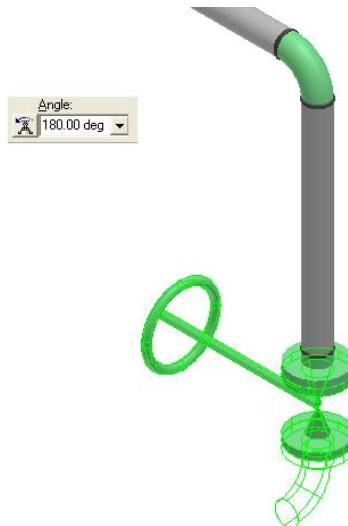

Figure 67: Elbow Rotated by 180 Deg
9. An outline of the elbow and mating flange will appear in the graphic view. Key in **180 deg** in the **Angle** drop-down list on the **Insert Component** ribbon to rotate the elbow so that the open port faces the west direction, as shown in Figure 67.